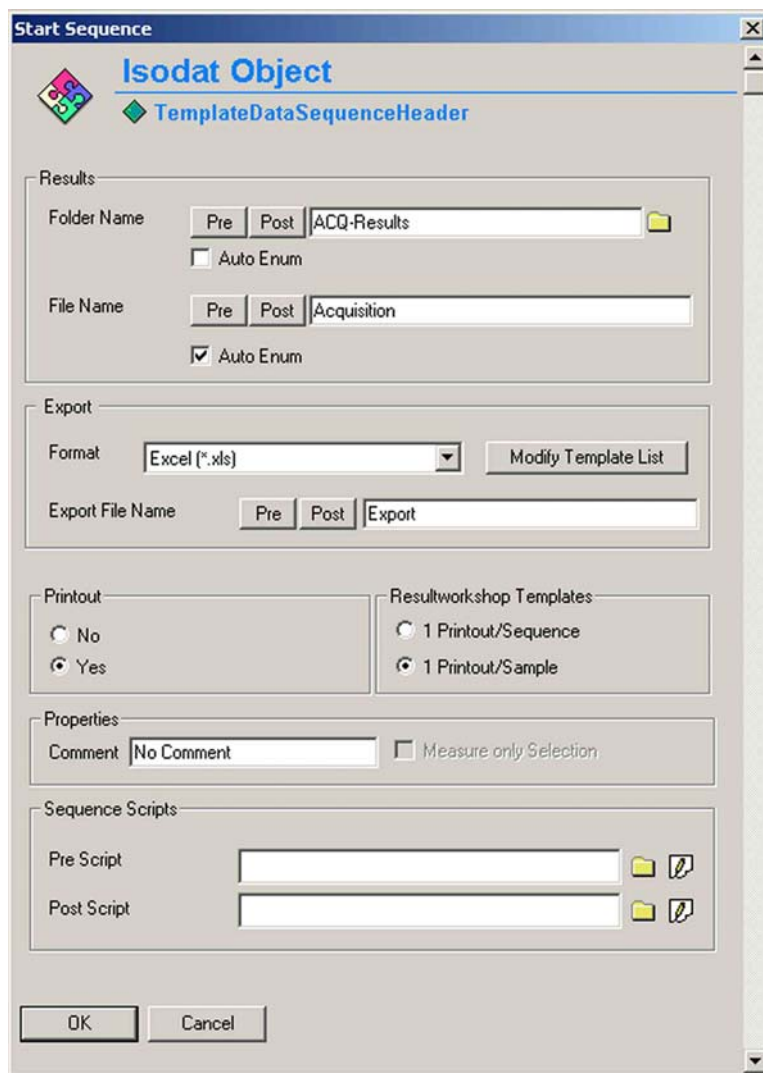

Figure 6-24. Starting dual measurement - defining export and printout parameters
7. Define a folder to save your result files as well as export and printout parameters. See Figure 6-24.